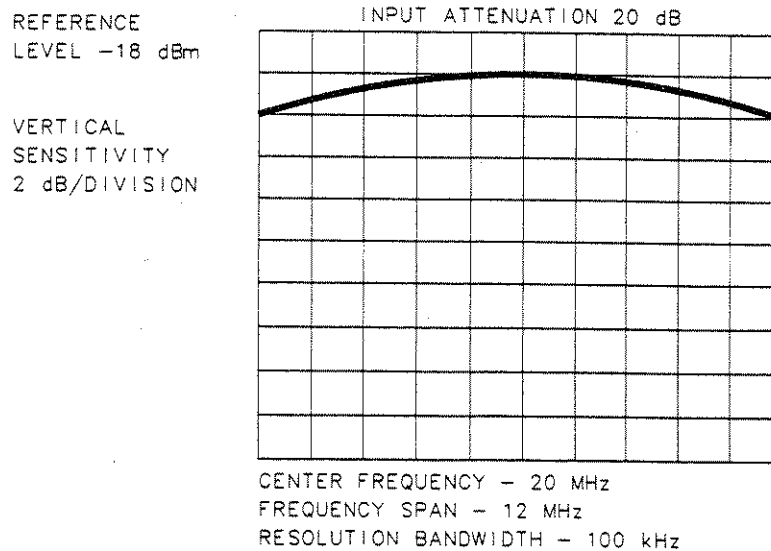

Figure 5-3. 300 MHz Passband
10. Check that the passband displayed on the spectrum analyzer is centered about 19.5 MHz. The passband should be greater than 10 MHz wide at the 3-dB points and flat to within one half dB within 2 MHz of the center frequency (see Figure 5-3). If so, no further adjustment is necessary.